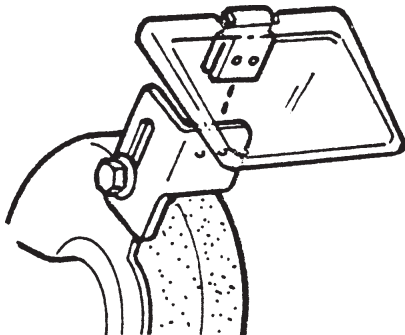

**FIGURE 3**
- a. Select one flat bracket and one eye shield. Assemble as shown in Figure 3.